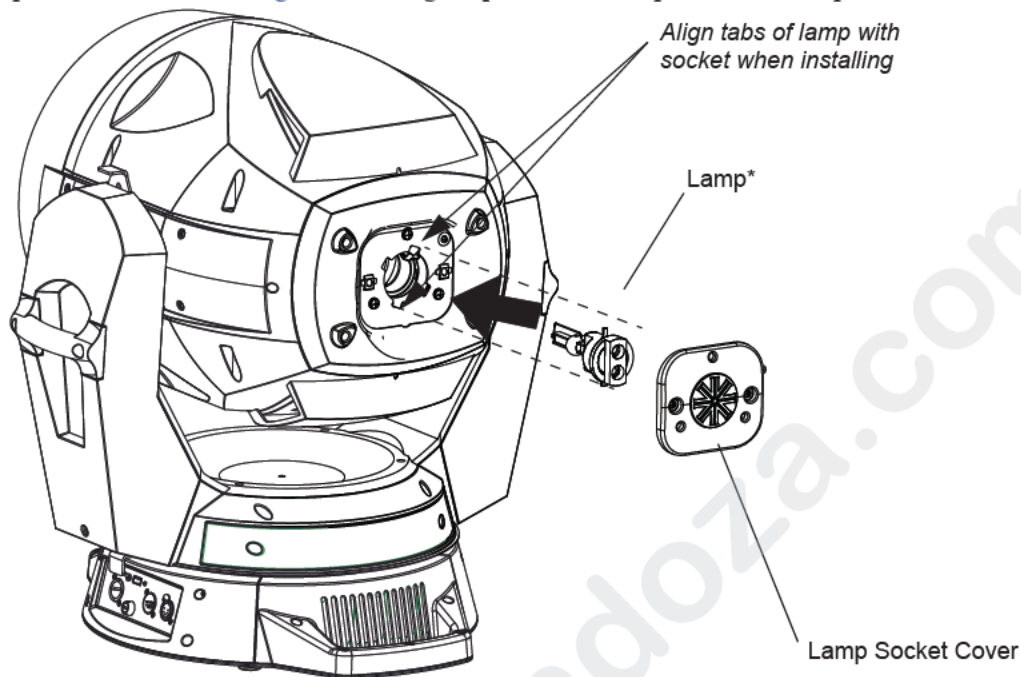

Figure A-2: Lamp Installation
- Step 5. To remove lamp, grasp lamp base by hand, twist lamp counter-clockwise until lamp's tabs align with slots in lamp socket (see Figure A-2 on page 73 for more information), and remove lamp by pulling it straight out of socket.
Step 7. As shown in Figure A-2, align replacement lamp tabs with lamp socket.